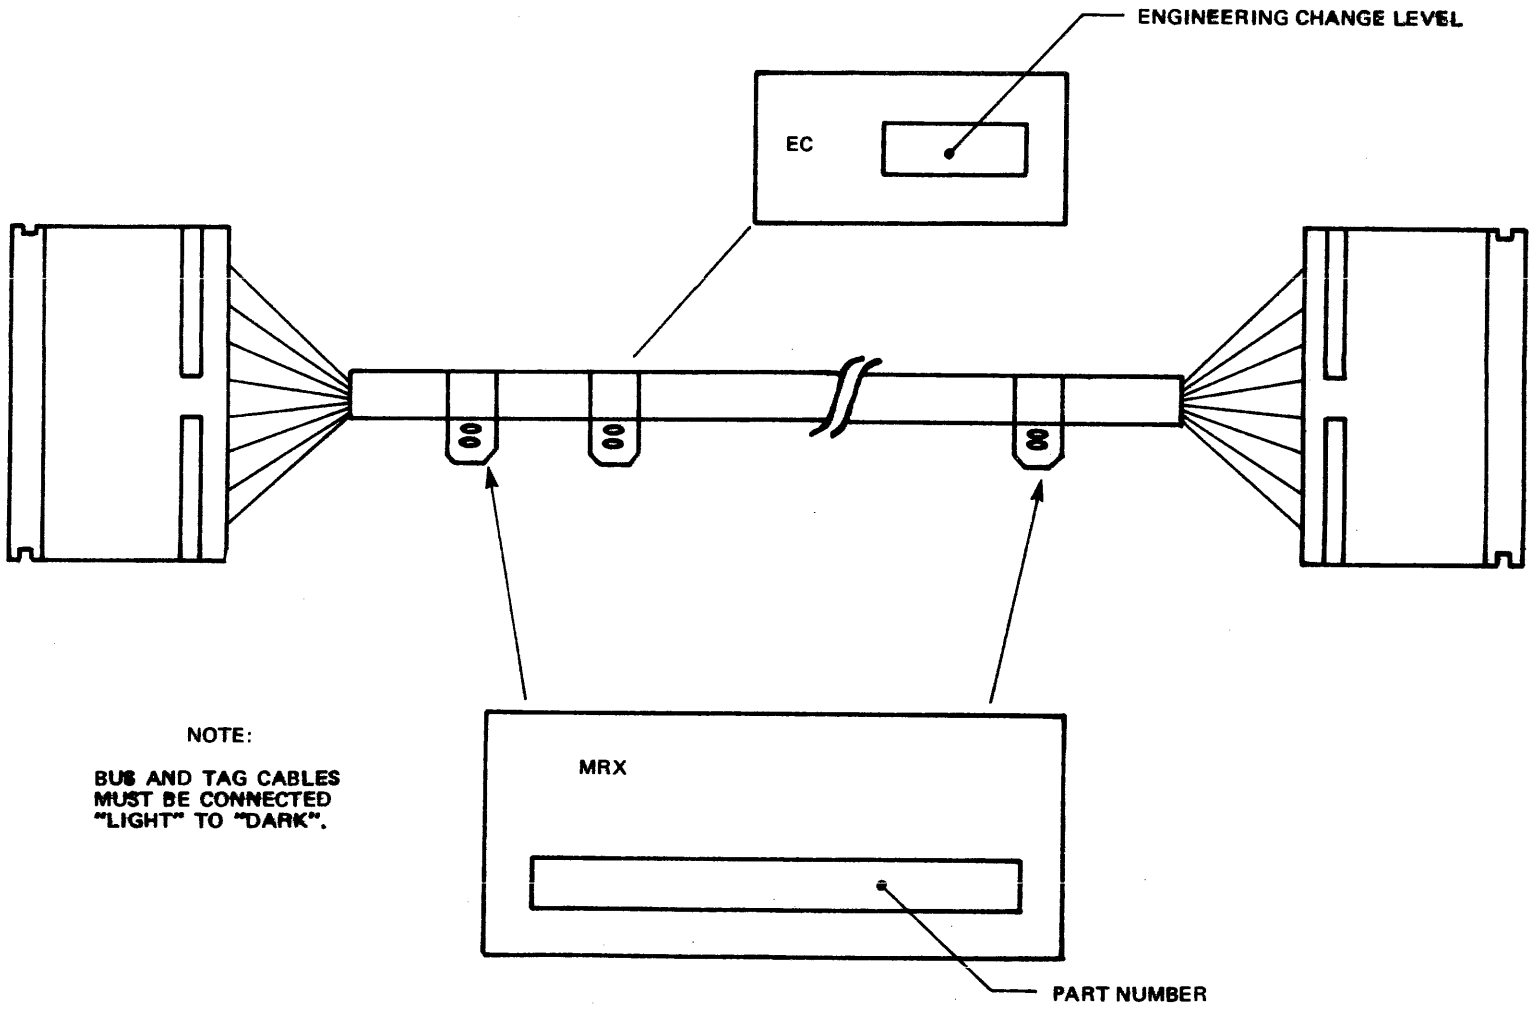

Figure 2-2. Cable Identification
System cables are identified by part number tags attached near both ends of each cable. A third tag denoting the engineering change (EC) level of the cable is attached near one end of the cable (see Figure 2-2). After removing all cables from their respective cartons, check them against the shipping list and the system requirements. Damaged or omitted cables should be reported to the field manager.
Sub-floor cables must be installed prior to positioning the equipment. Cables to be installed at floor-level should be sorted and routed between equipment after positioning. Cables at floor-level will require protective ramps. Place bus and tag cables so that a dark plug will connect to a light receptacle and vice versa (see Figure 2-2).